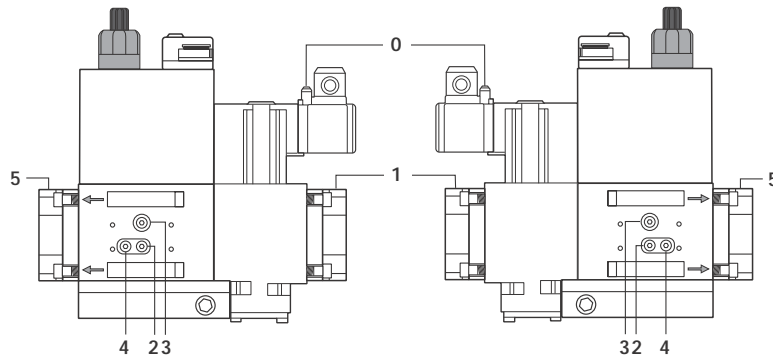
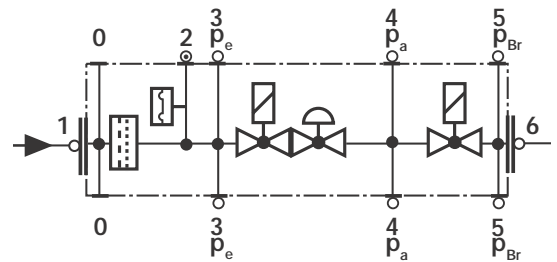

Fig. 35
Fig. 36
- Change the filter if the pressure difference between pressure connection 1 and 2 (Fig. 35-Fig. 36)  $\Delta p > 10$  mbar.
- Change the filter if the pressure difference between pressure connection 1 and 2 (Fig. 35-Fig. 36) is twice as high compared to the last check.